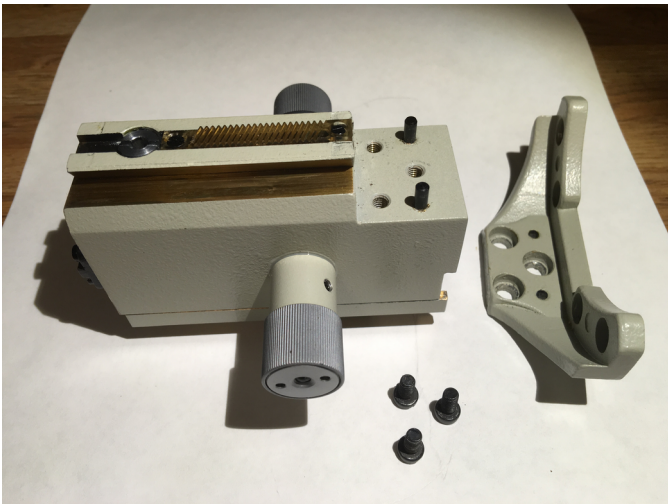

Figure 6
* Remove the three screws that fasten the stage carrier to the focus block. (Figure 6) Note that two pins also hold the two parts in tight alignment.
* Pull the stage carrier from the focus block. The pins are fitted very tight and it will take patient wiggling and pulling to separate the parts without bending the pins. (Figure 6)